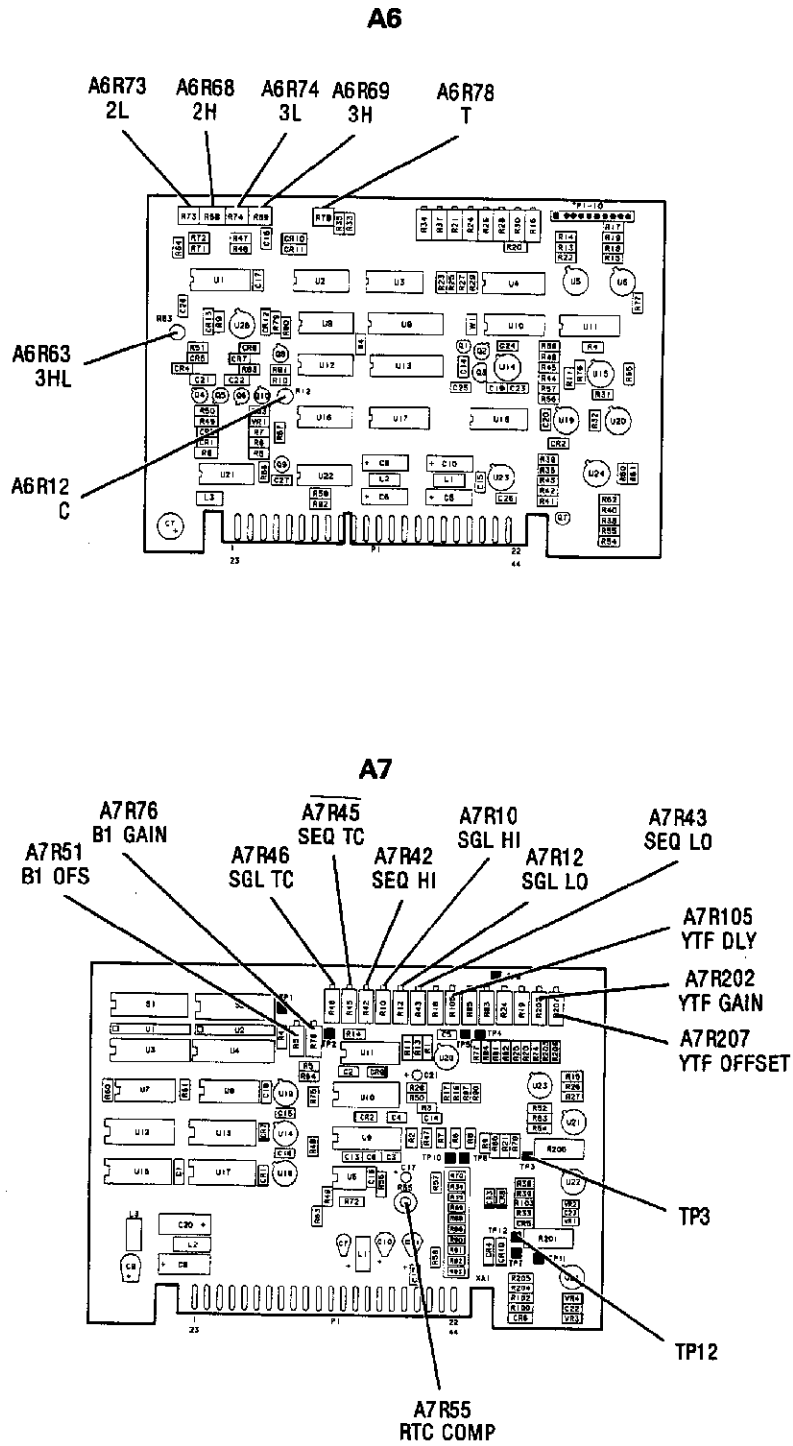
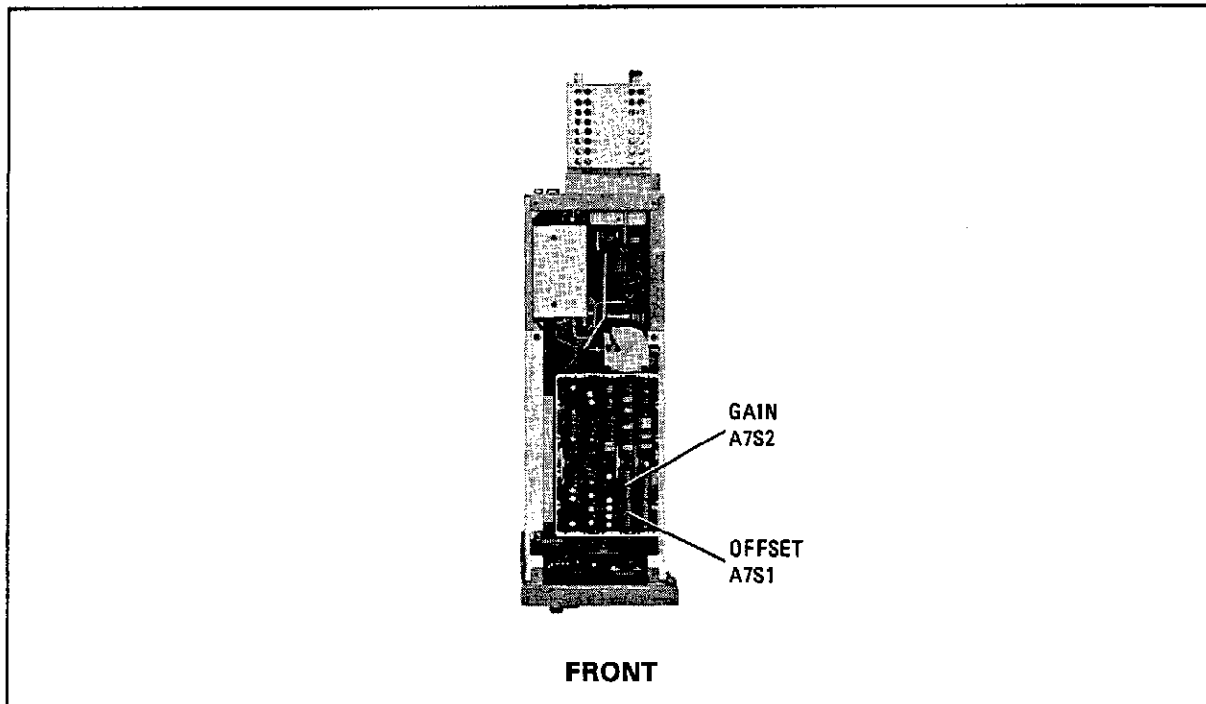
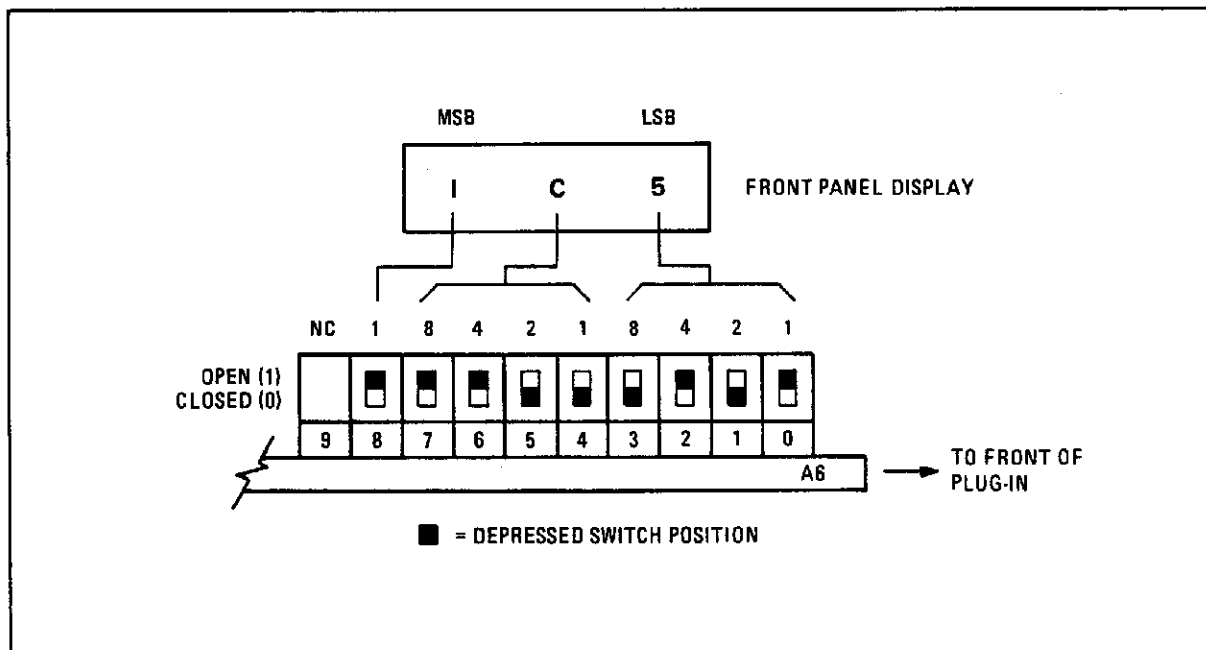
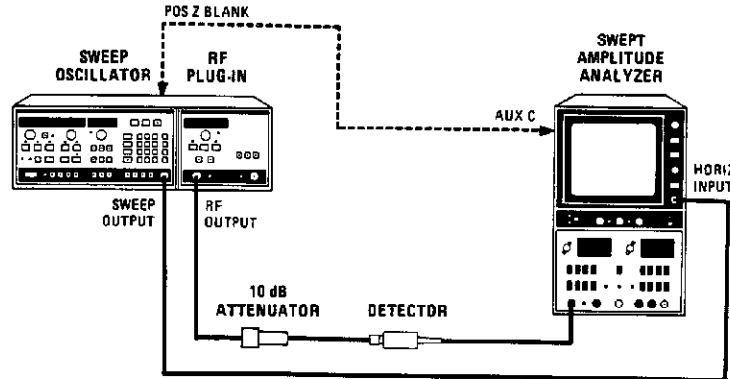

Figure 5-25. Slow Speed YTM to YO Tracking Adjustment and Test Point Locations
Figure 5-26. YTM to YO Tracking Calibration Switch Locations
Figure 5-27. YTM to YO Tracking Calibration Switch Configuration
Figure 5-28. YTM Delay Compensation Adjustment Test Setup
If the YTM is being replaced R200 must also be replaced. Place A7 on an extender board. Press [SHIFT] [9] [2] and set the plug-in display to 200 using the POWER control knob. Press [SHIFT] [9] [3] and set the plug-in display to 300 using the POWER CONTROL knob. Connect a 500 ohm potentiometer in series with a 40 ohm resistor, between TP3 and ground. While viewing the YTM output on the HP 8756A, adjust the 500 ohm potentiometer to obtain maximum power across the full band. Remove both resistors and measure the resistance of the series pair. Replace R200 by a 3/4 watt resistor closest to this measured value. Refer to Figure 5-25 for adjustment locations.
4. Preset A6R63 (3HL) to mid range. Refer to Figure 5-25 for adjustment locations.
5. Preset A6R78 (T) and A6R12 (C) one quarter turn from the full counterclockwise position.
9. Repeat setps 4 to 7 until maximum power output is obtained. Enter the OFFSET DAC "number" into A7S1. Enter the GAIN DAC "number" into A7S2. Switch locations are shown in Figure 5-26. Switch configurations are shown in Figure 5-27.
12. YTM delay compensation will now be performed. The equipment should be connected as in Figure 5-28. Do not connect the BNC cable between the Model 8350A/B rear panel POS Z BLANK and the HP 8755 Aux C connector. Preset A7R45 (SEQ TC) fully counterclockwise. Refer to Figure 5-25 for adjustment locations.
If the YTF is being replaced, R201 must also be replaced. Place A7 in an extender board. Center potentiometers R202 and R207. Remove R201 and connect a 500 ohm potentiometer with a 40 ohm resistor, between TP12 and ground. While viewing the YTF output on the HP 8756A, adjust the 500 ohm potentiometer to obtain maximum power across the full band. Remove both resistors and measure the resistance of the series pair. Replace R201 by a ¾ watt resistor closest to this measured value. Refer to Figure 5-25 for adjustment locations.
35. Reconnect equipment as shown in Figure 5-28. Connect the BNC cable from the Model 8350A/B POS Z BLANK to the HP 8755 AUX C Connector.